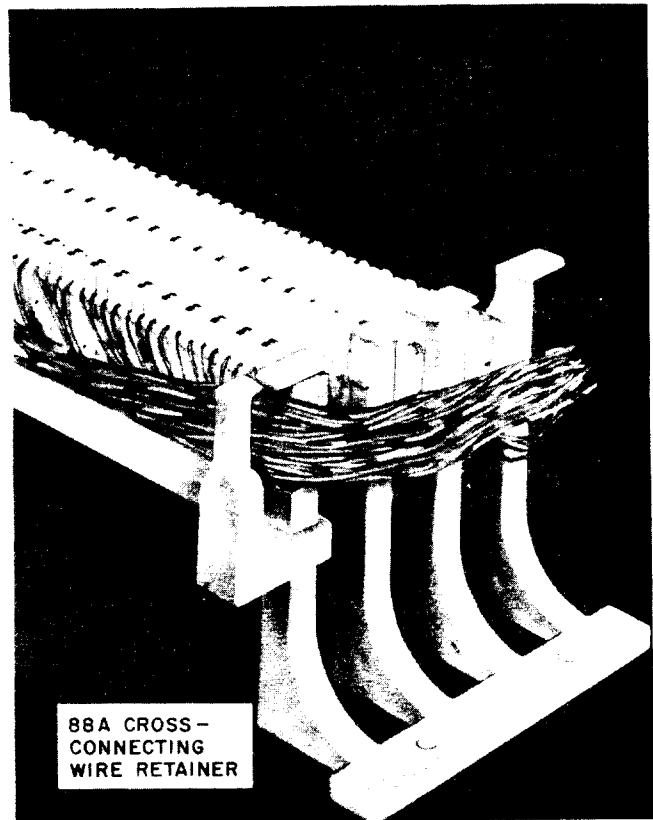

Fig. 6—88A Wire Retainer
**2.09** The 88A wire retainer (Fig. 6) is used on top- or bottom-mounted blocks to form a fanning strip slot for the cross-connect wire.